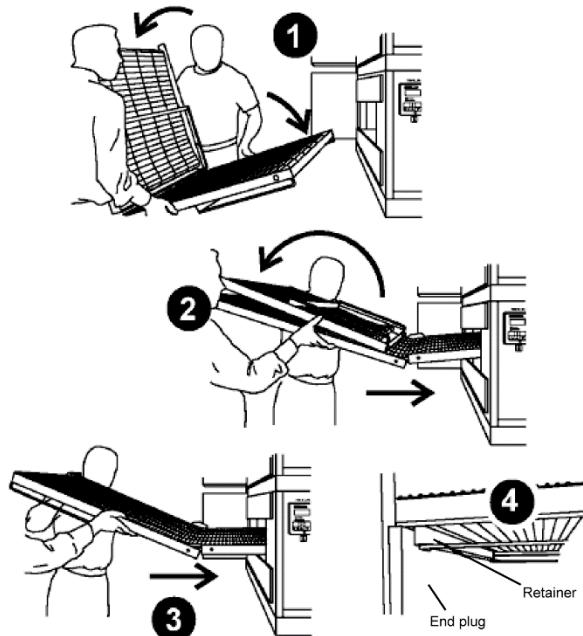

Figure 20. Conveyor Installation
1. Unfold the conveyor as shown in Figure 20. Then begin to slide the conveyor into the end of the oven. The conveyor can only be installed from the side of the oven where the drive motors are located.